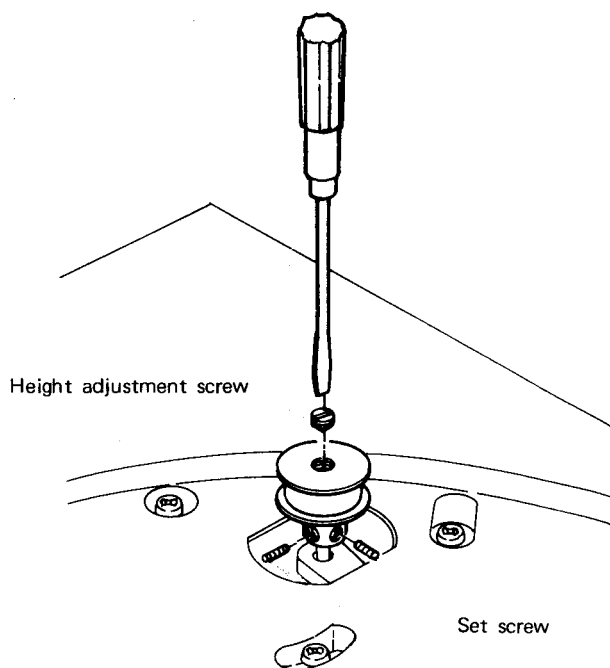

Fig. 3-2 Motor pulley-height adjustment
2. Loosen the two set screws on the motor pulley as shown in Fig. 3-2.
3. Turn the top screw on the motor pulley with a screwdriver to get the specified pulley height as shown in Fig. 3-2. The motor-pulley height between the top of the pulley and the turntable base should be  $11/16'' \pm 1/16''$  (17 mm  $\pm$  1 mm).